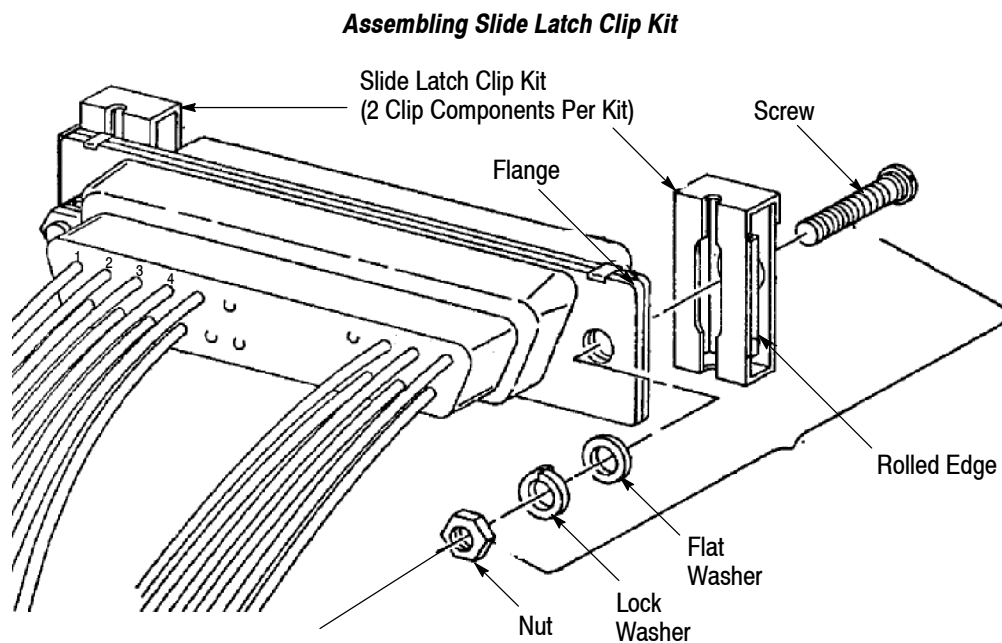

Figure 4
3.2. Slide Latch Clip Kits (See Figure 4)